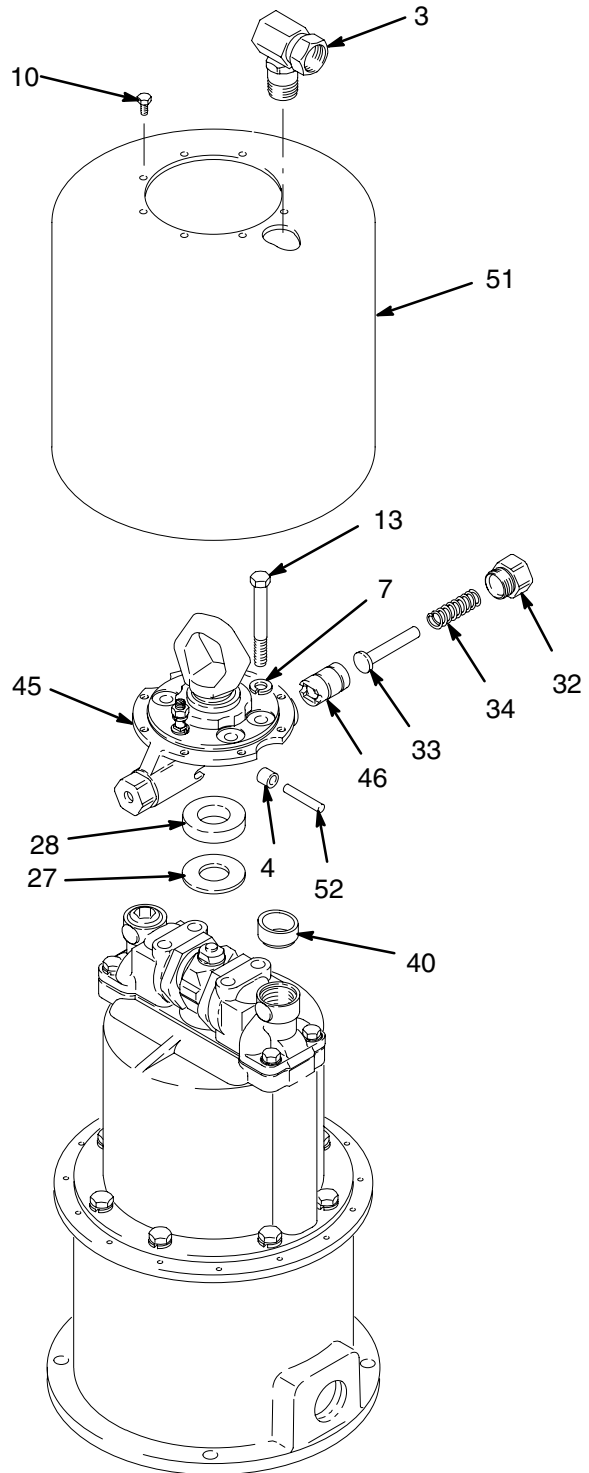

Fig. 3
**NOTE:** Refer to Fig. 3 for steps 3 to 5.
3. Remove the air inlet fitting (3). Remove the screws (10) and lift off the air motor shield (51). Remove the grommet (40).
4. Unscrew the spring retainers (32) and remove the spring (34), guide (33), and plunger (46) from each side of the detent housing (45).
5. Remove the four screws (13) and lockwashers (7) from the detent housing (45). Carefully lift the housing so the rollers (4) and axles (52) do not fall out. Remove the rollers, axles, washer (27), and rubber pad (28).